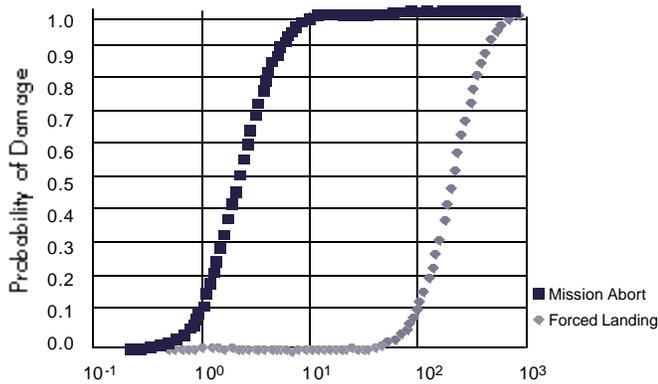

Figure 7
- ◆ Probability of target failure curves (Figure 7)